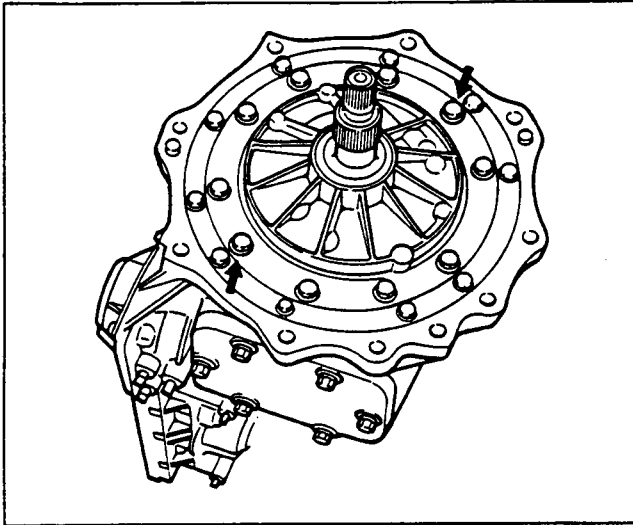

Figure 13. Oil Pump Removal (1)
Oil Pump (Figures 13, 14 and 15)
1. Remove two of the oil pump housing bolts from the oil pump (figure 13).